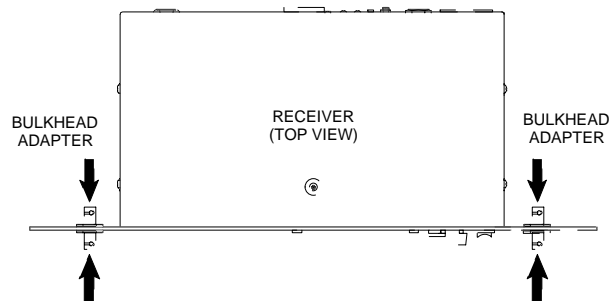

FIGURE 6
1. Insert the two bulkhead adapters through the larger holes on each side of the front panel, and secure them from each side, using the supplied attaching hardware. See Figure 6.